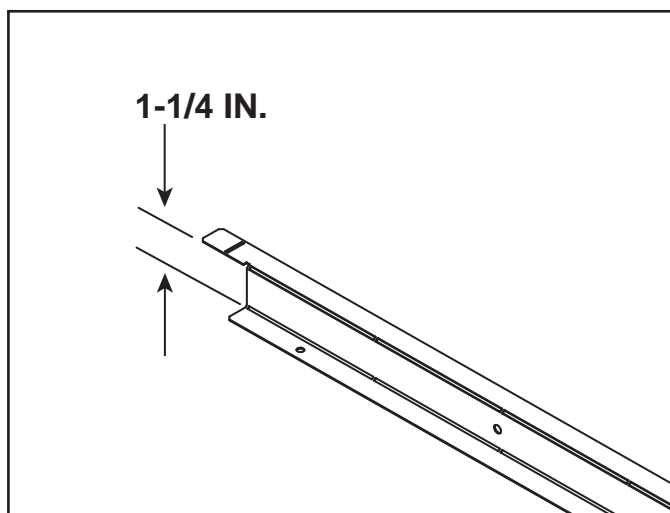

Figure 13.3 Top Finishing Template Bend
4. Bend the top template as shown in Figure 13.3 and secure with the two screws provided.